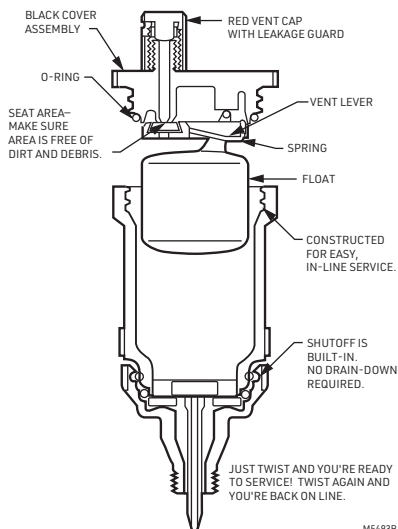

Fig. 5. EA122A construction.
- Remove the float assembly by unscrewing the top of the body and lifting the black cover assembly up. See Fig. 5.
5. Replace the float assembly, making sure that the O-ring is seated properly. See Fig. 5.
The EA122A is not venting air or there is too much air in the system.	<ol style="list-style-type: none"> 1. Check the red vent cap; make sure the vent passage is open (disks are not swelled). 2. Check that the valve is in the open position. 3. Make sure that the float is attached to the vent lever as shown in Fig. 5.